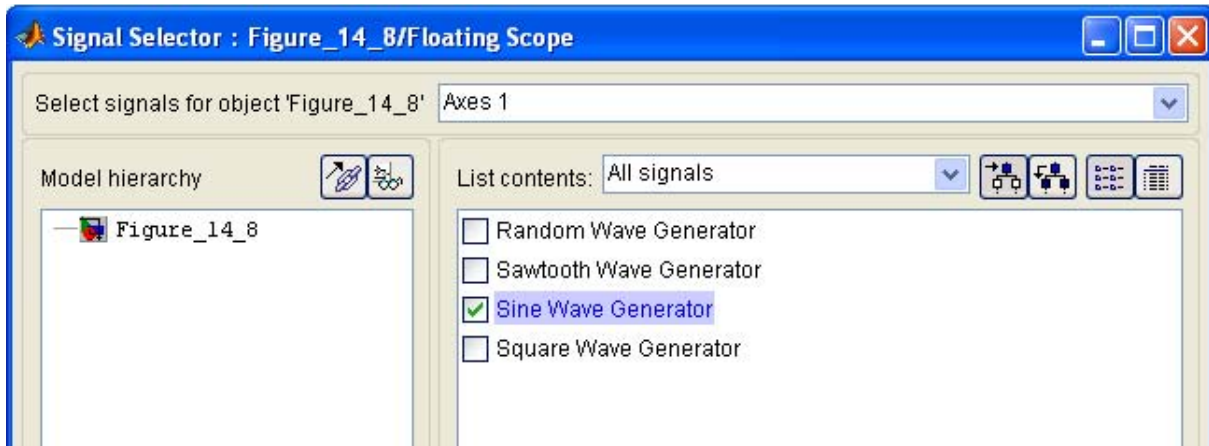

Figure 14.12. The Signal Selector window for the model of Figure 14.8
4. We right-click the axis with the blue border around it, we click on **Axis properties** we set the y-axis at -1 (min) and $+1$ (max), we right-click again, and we click on **Signal selection**. On the **Signal Selector** dialog box shown in Figure 14.12 we choose the **Sine Wave Generator**.